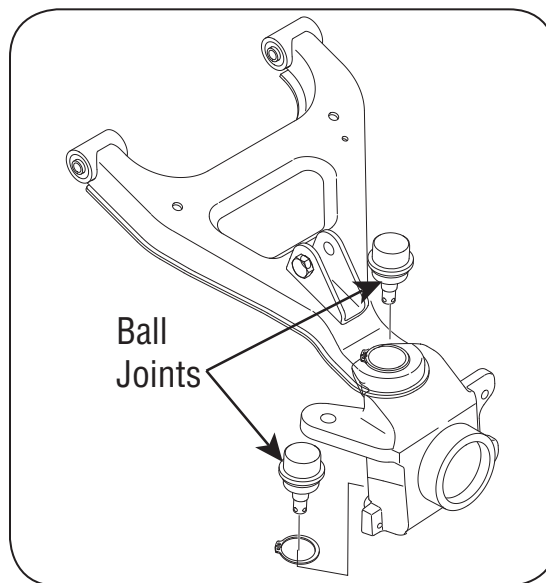

Figure 11
1. Inspect the upper and lower **front** A-arm ball joints on each side of the vehicle and the two tie rod ends for wear every 100 hours or once a year. See Figure 11. If excessive wear appears, have ball joints or tie rod ends replaced by your local Cub Cadet dealer.